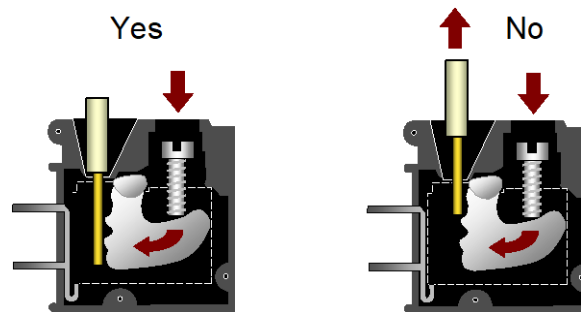
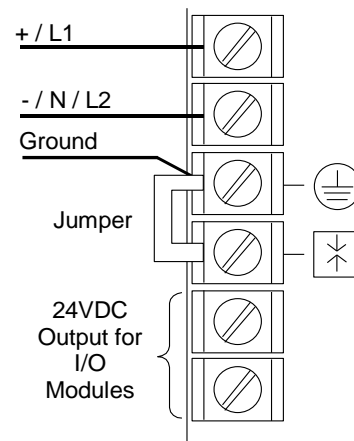

Figure 49: Correct Wiring Practice for Power Supply Input Terminals
Figure 51: IC694 Power Supply Terminals
- For IC695 Power Supplies, each terminal accepts one AWG #14 to AWG #22 wire. Figure 49 (below) is a cross-section of one of the terminals on an IC695 Power Supply. The end of each wire should be stripped at least 3/8-inch (9mm). The terminal can accept a wire that is stripped up to 11 mm (.433 in) while providing full seating for the insulator. The wire must be fully inserted into the terminal block as illustrated in Figure 49 at left so that the insulation meets the insulation stop position inside the terminal. Tightening the terminal screw pivots the clamp firmly against the stripped end of the wire, holding it in place. If the wire is not fully inserted, as shown on the right, tightening the clamp may push the wire upward so that it is not connected.
1. The input power terminals should be wired as shown in Figure 49 through Figure 51 above.